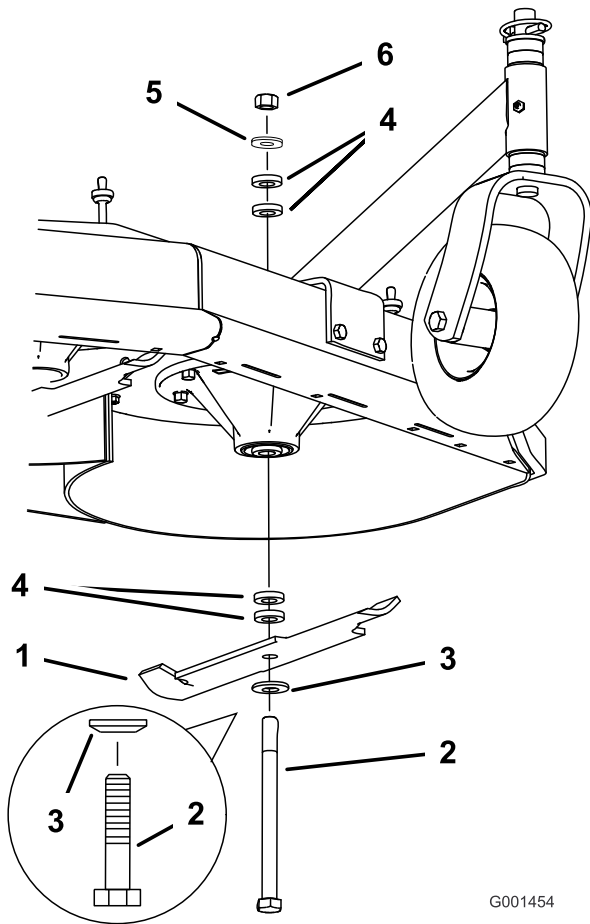

Figure 48
2. Remove the nut, blade bolt, curved washer, blade, spacers, and thin washer from the spindle (Figure 48).
1. Place the blade onto the bolt and over the cone washer. Select the proper number of spacer(s) for the height-of-cut, and slide the bolt into the spindle (Figure 48).